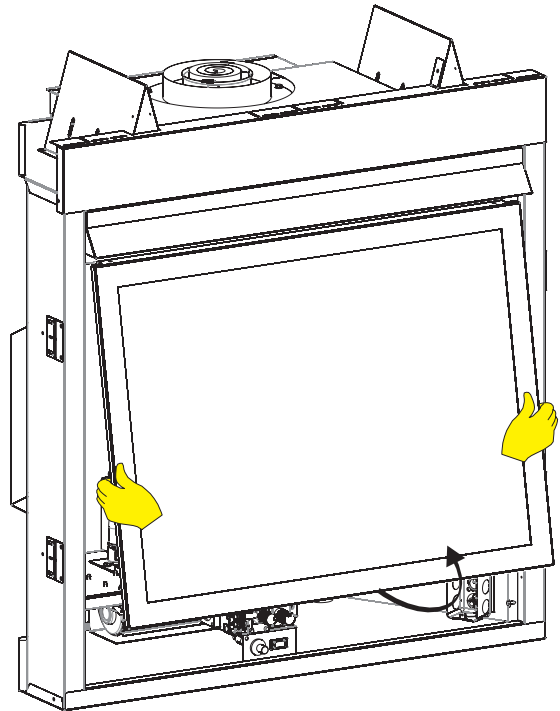

Figure 80
5. Move your hands to the sides of the glass frame and lift it up and away from the fireplace. **See Figure 80.**